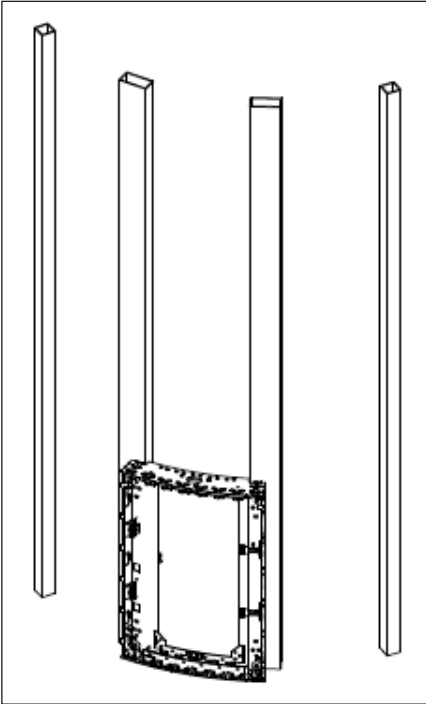

Figure 4: Install First Panel
1. Start the first panel (with the module columns removed) at the bottom-center of the curved portion of the display. Refer to **Figure 4**. Use a straight edge to position the panel so the bottom is flush with the bottom of the tube and does not hang below the bottom of the tube by more than 1/4" [6.35 mm]. The left and right edges of the panel should align with the vertical centerlines of the tube.